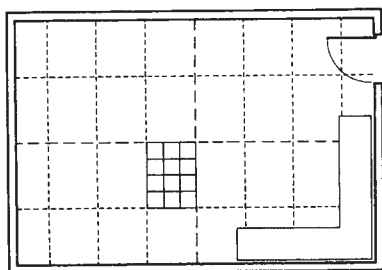

Fig. 8 - Lay out smaller sections for grouted floors.
- When installing grouted floors, divide the floor into smaller sections to help maintain consistent grout line widths and keep the joints running straight (Fig. 8). Each section should be the precise dimension of 2 or 3 whole tiles wide, including the grout line width. Lay out the smaller sections by starting at the center lines and measuring out toward the walls. It is not necessary to divide the room into smaller sections when installing ungrouted floors.